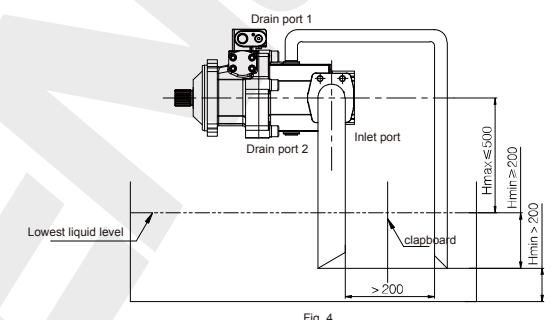

Fig. 4
- When the minimum fluid level is lower than the pump top, blocked Drain Port 2, the requested piping for Drain Port 1 and pump suction port, refer Fig. 4. Note: $H_{\text{tmin}} = 200\text{ mm}$.
- Mounting above the oil tank, see Fig. 4